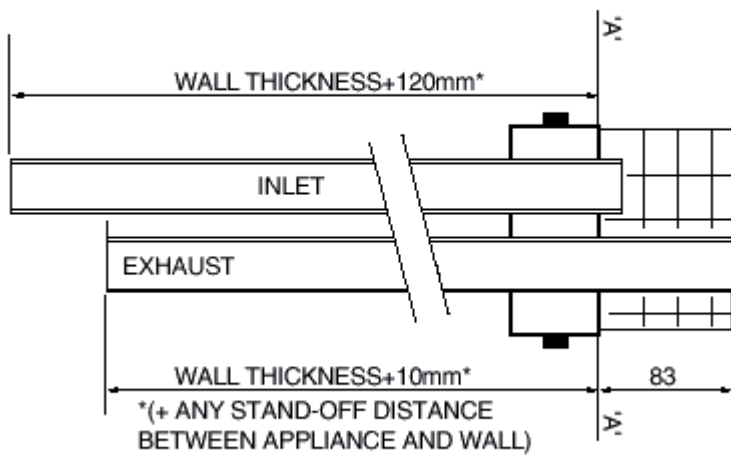

Fig. 9.5 Flue terminal assembly
- d. Measure and cut flue pipes with a hacksaw to a length as illustrated in fig 9.5. Measure the wall thickness and add 10mm to the flue pipe and 120mm to the air inlet pipe from datums 'AA'. Remove any burrs from cut ends of tubes. Note: If wall is not truly vertical or appliance is prevented from standing against wall, add stand off distance to wall thickness measurement.